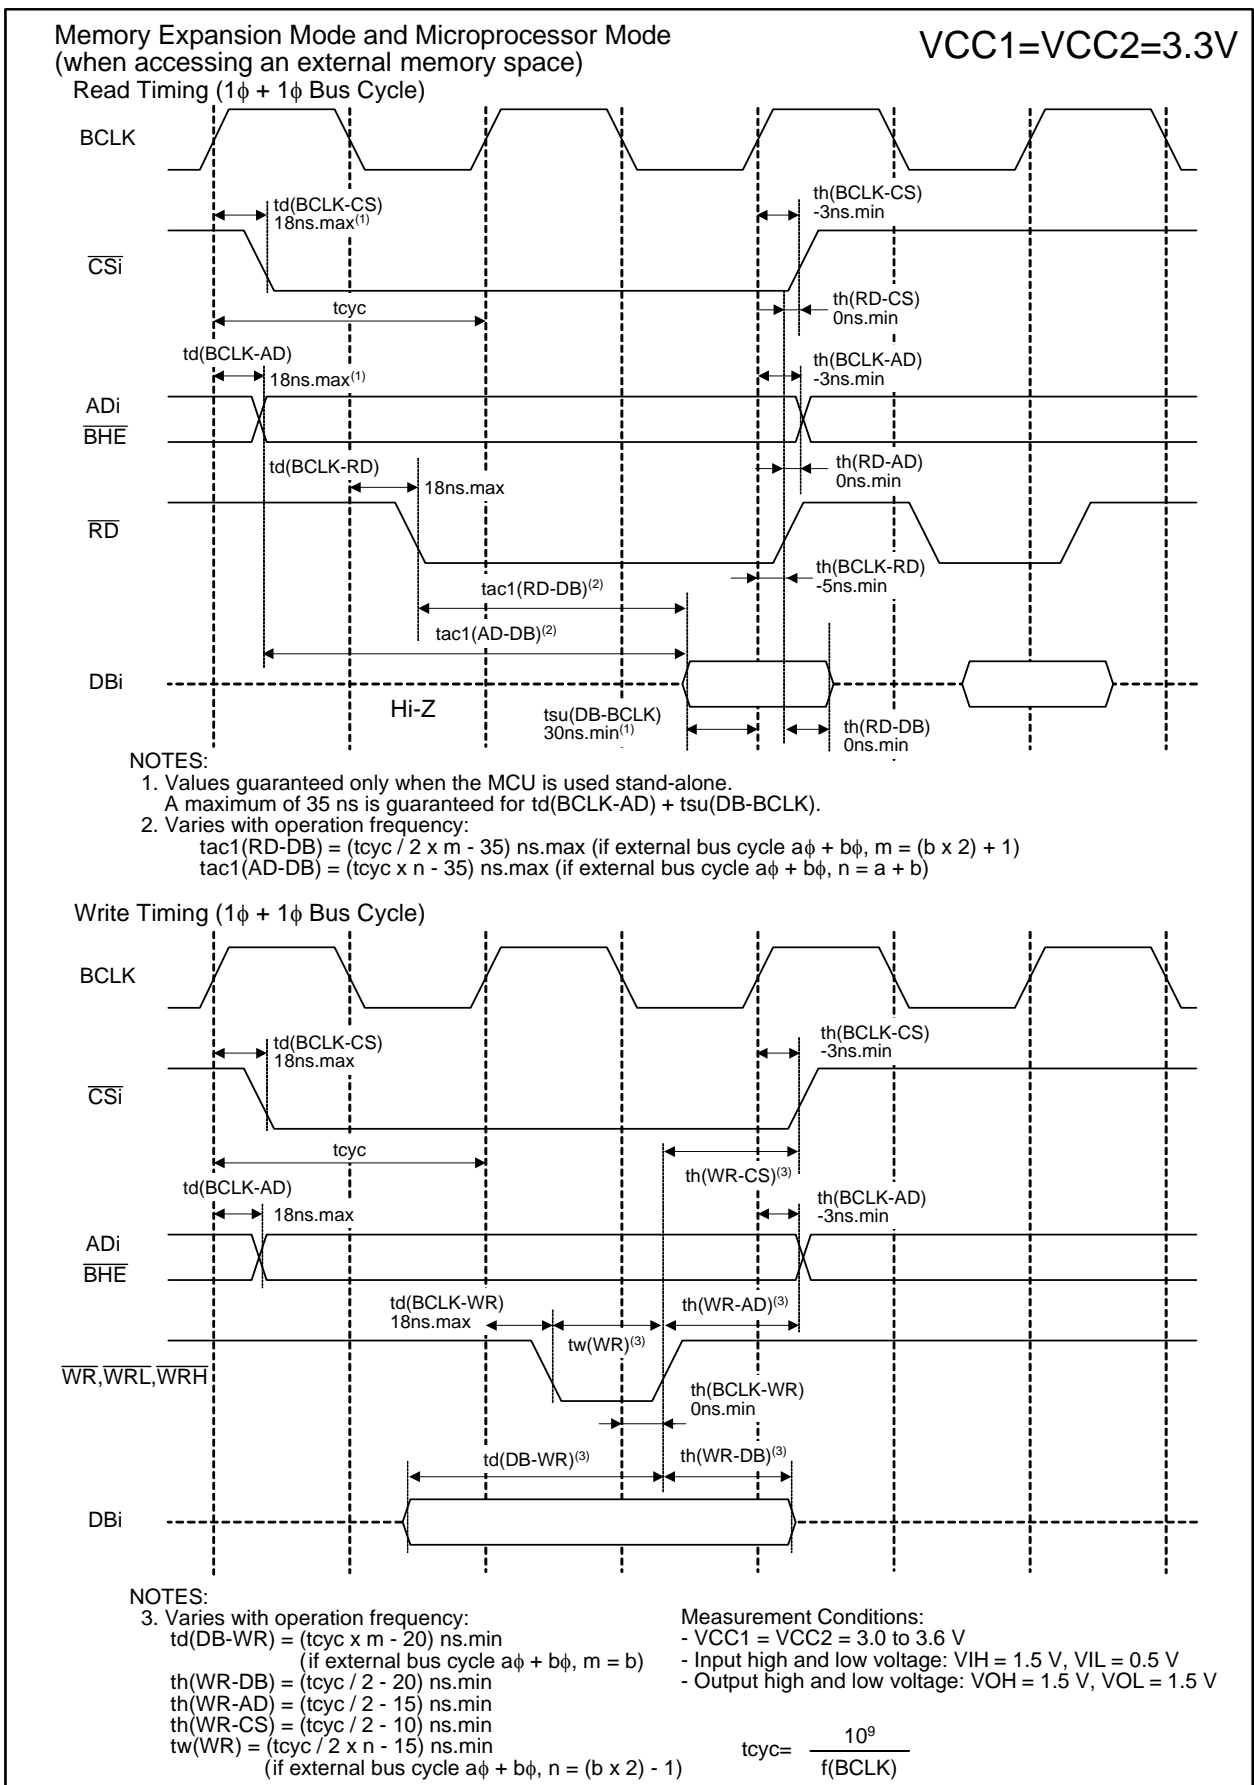

Figure 5.9 VCC1 = VCC2 = 3.3 V Timing Diagram (3/4)
73	• Figure 5.9 Vcc1=Vcc2=3.3V Timing Diagram (3) \overline{NMI} input diagram added